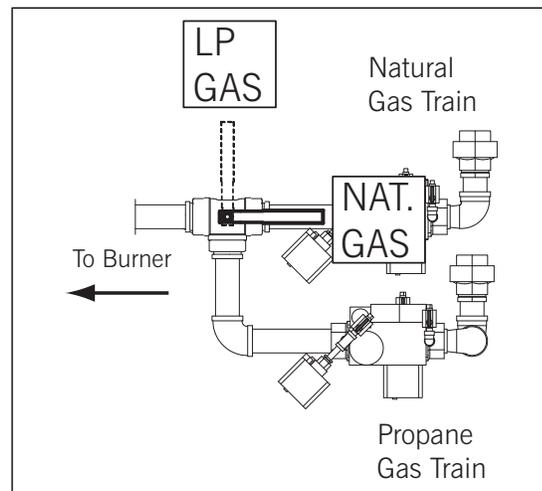

Figure 4-12 Gas selector valve
4. Turn gas selector valve to the LP gas position (see **Figure 4-12**).